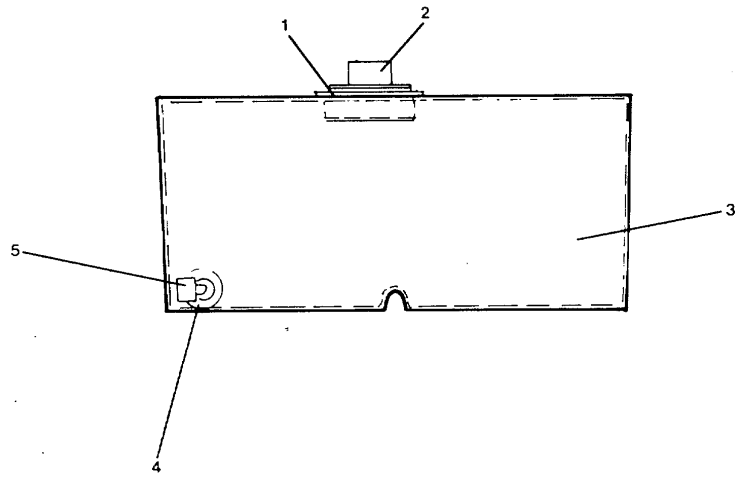

Figure 2-26. Bleach Tank Assembly.
- b. Remove the fill plug (2, FIGURE 2-26) from the adapter (1) in the tank (3).
- d. Disconnect the bleach line at the adapter elbow (5, FIGURE 2-26) on the tank (3).
- e. Screw the fill plug (2) back into the tank.
- b. Connect the bleach line to the adapter elbow (5, FIGURE 2-26).
- e. Install the fill plug (2, FIGURE 2-26) in the adapter (1) on top of the tank.